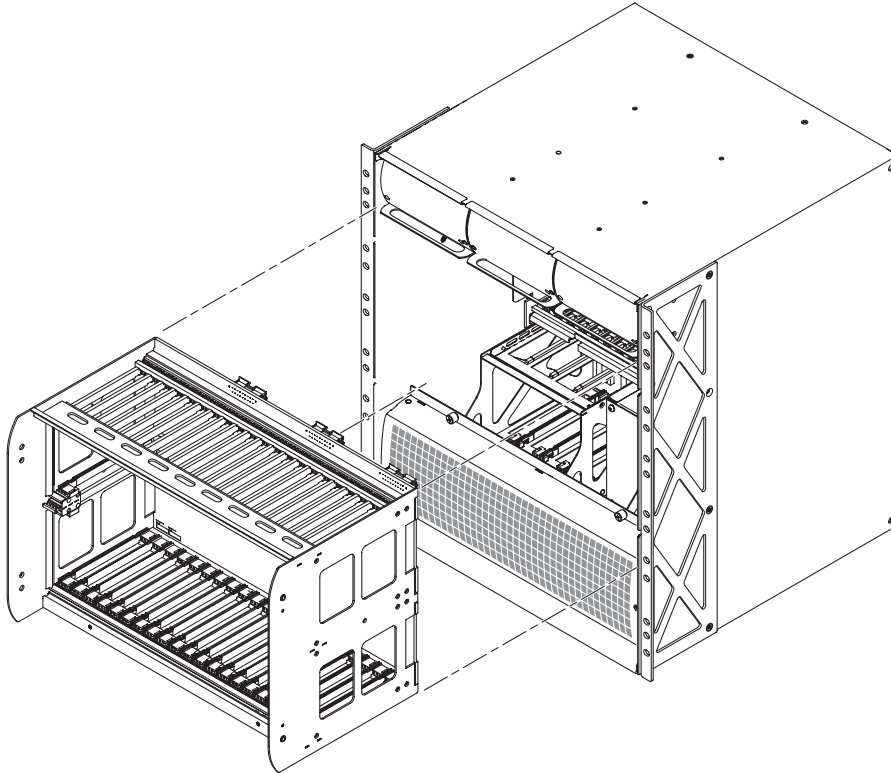

FIGURE 7-3 Installing the Midplane Assembly
2. Position the cage in the system so the four guide pins on the outer sides of the cage align with the four guide notches in the enclosure (FIGURE 7-3).